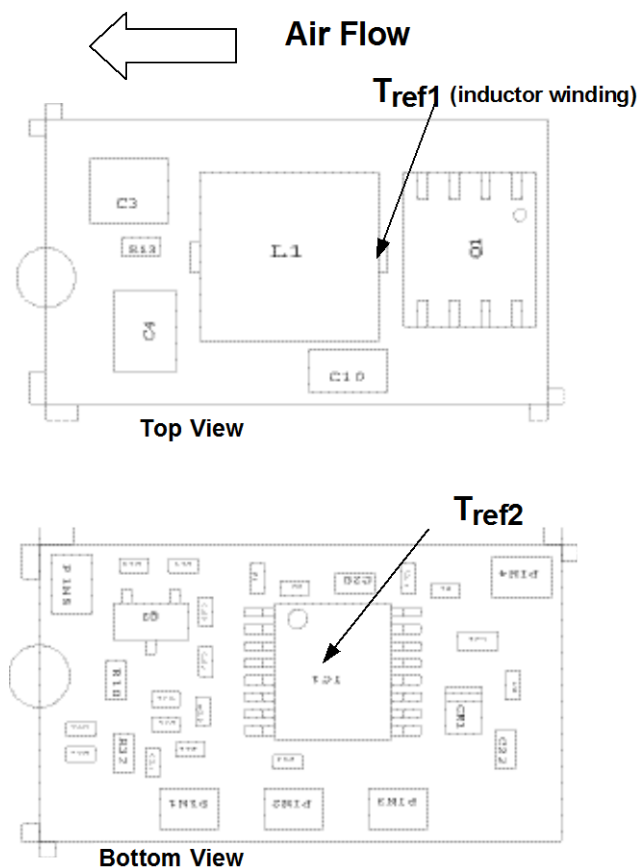
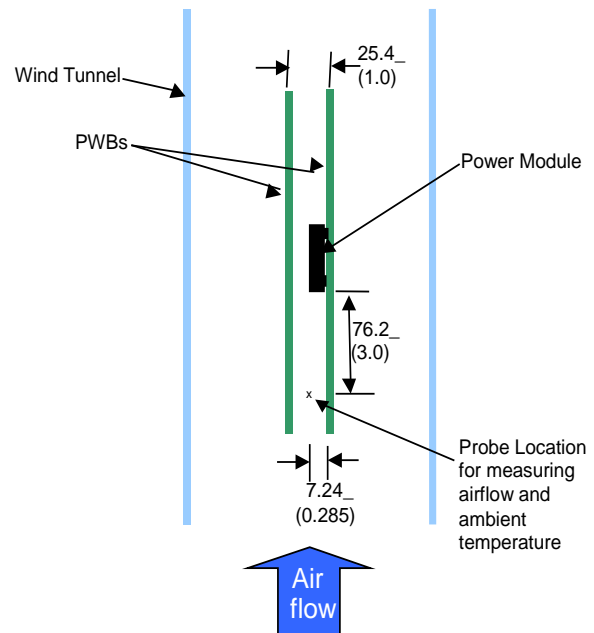

Figure 32.  $T_{ref}$  Temperature measurement location.
Figure 33. Thermal Test Set-up.
Considerations include ambient temperature, airflow, module power dissipation, and the need for increased reliability. A reduction in the operating temperature of the module will result in an increase in reliability. The thermal data presented here is based on physical measurements taken in a wind tunnel. The test set-up is shown in Figure 33. Note that the airflow is parallel to the long axis of the module as shown in figure 32. The derating data applies to airflow in either direction of the module's long axis.
The thermal reference points,  $T_{ref1}$  and  $T_{ref2}$  used in the specifications of thermal derating curves are shown in Figure 32. For reliable operation these temperatures should not exceed 125°C.